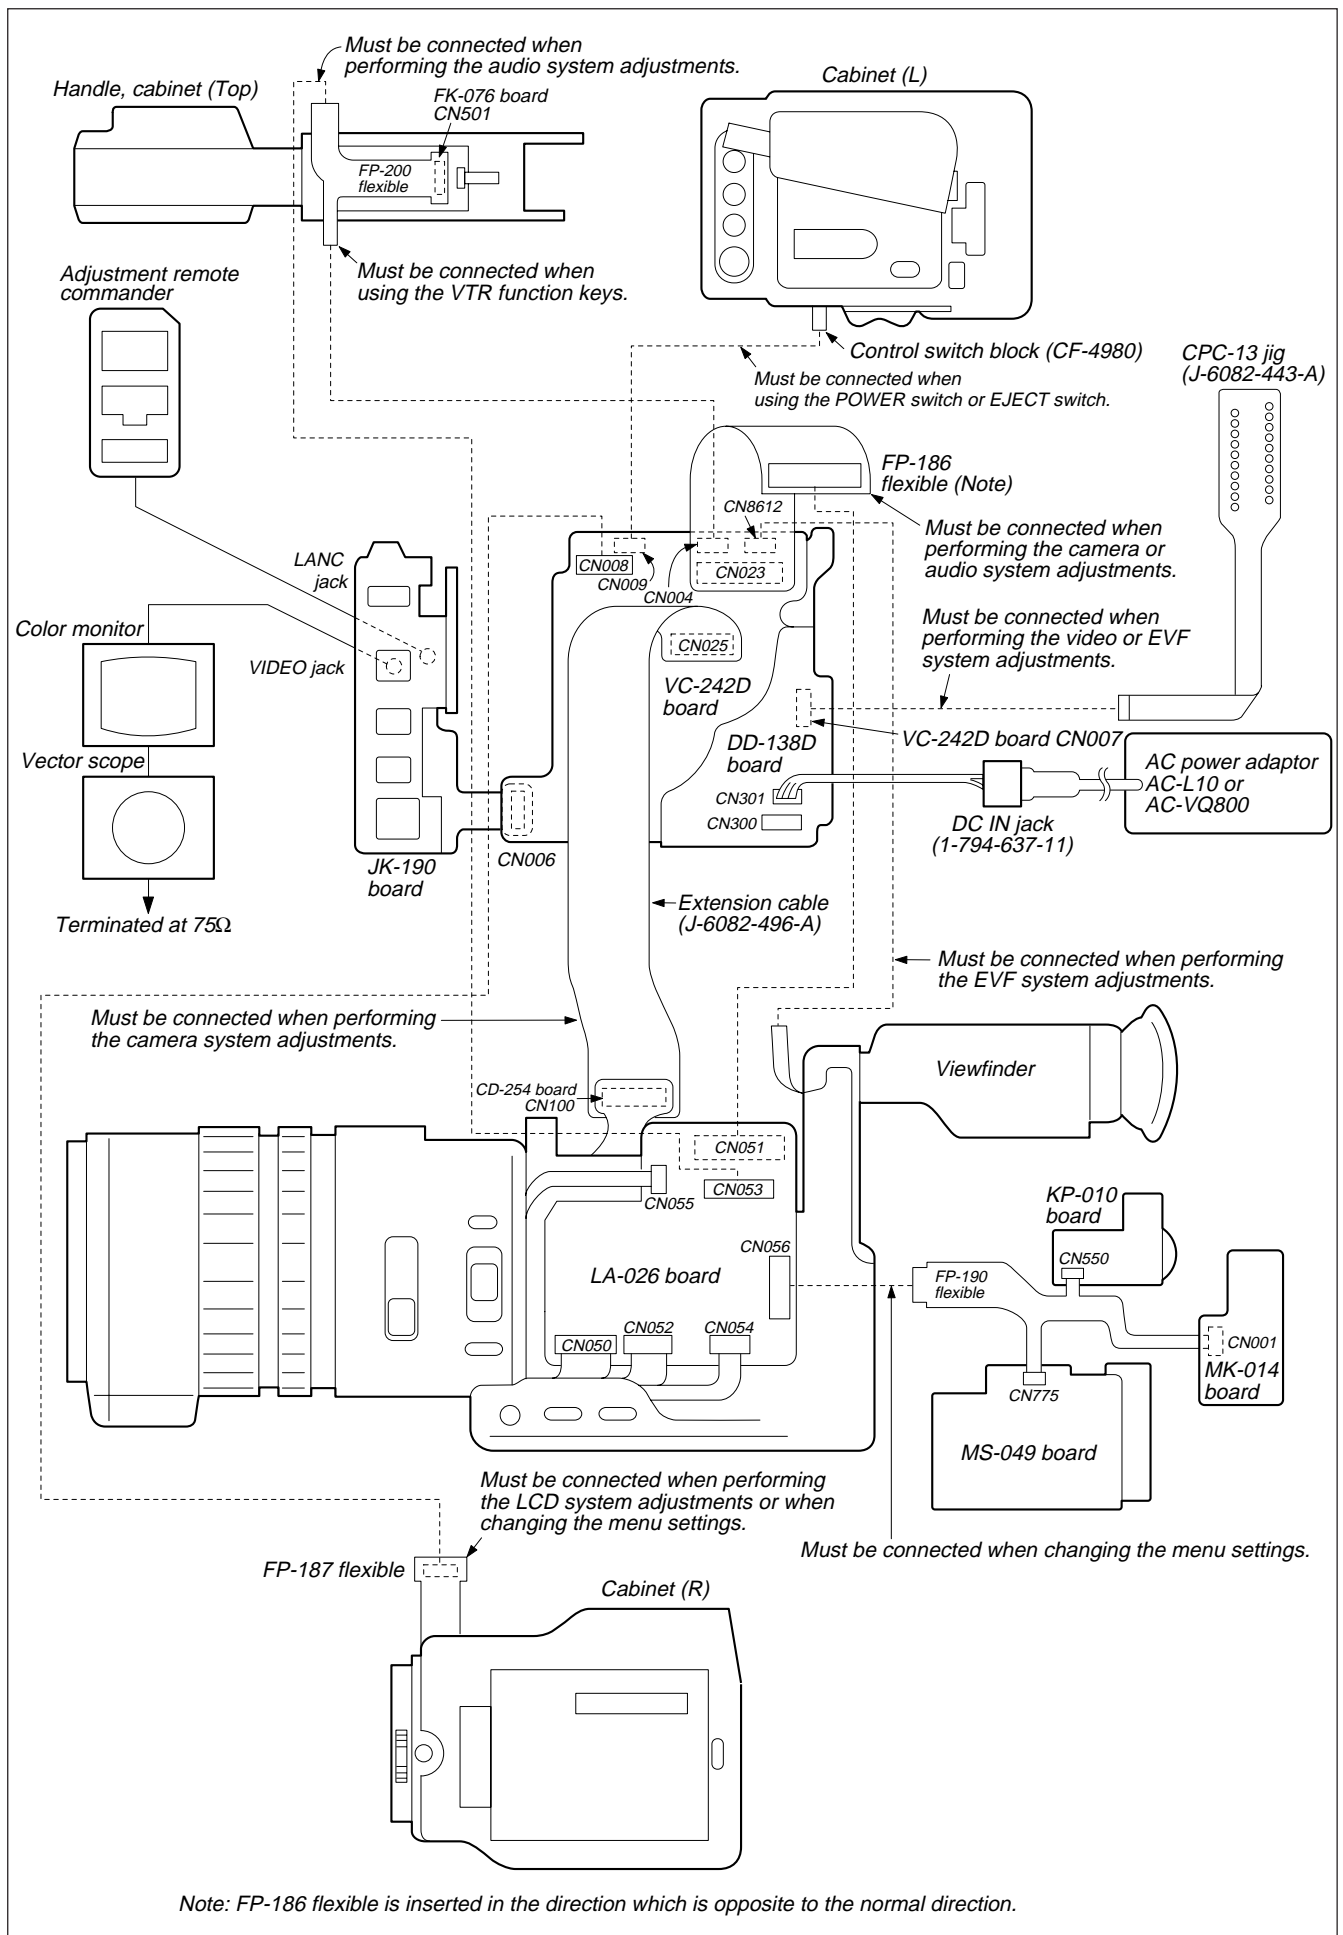

Fig. 5-1-3.
1) Connect the equipment for adjustments according to Fig. 5-1-3.